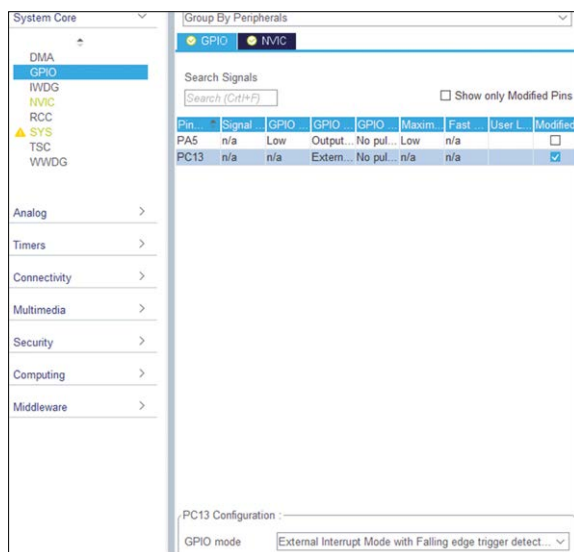

Figure 5.69 Select falling edge detection.
- click **System Core**, followed by **GPIO** and then click on PC13 and set the **GPIO mode** to **External interrupt mode with falling edge trigger detection** as shown in Figure 5.69;